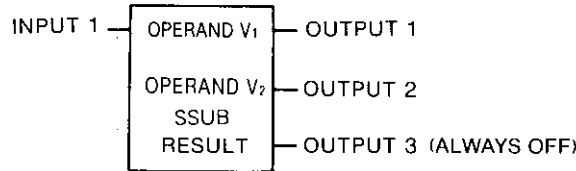

Fig. 5.43 SSUB General Form
- Fig. 5.43 shows the form of signed subtraction (SSUB).